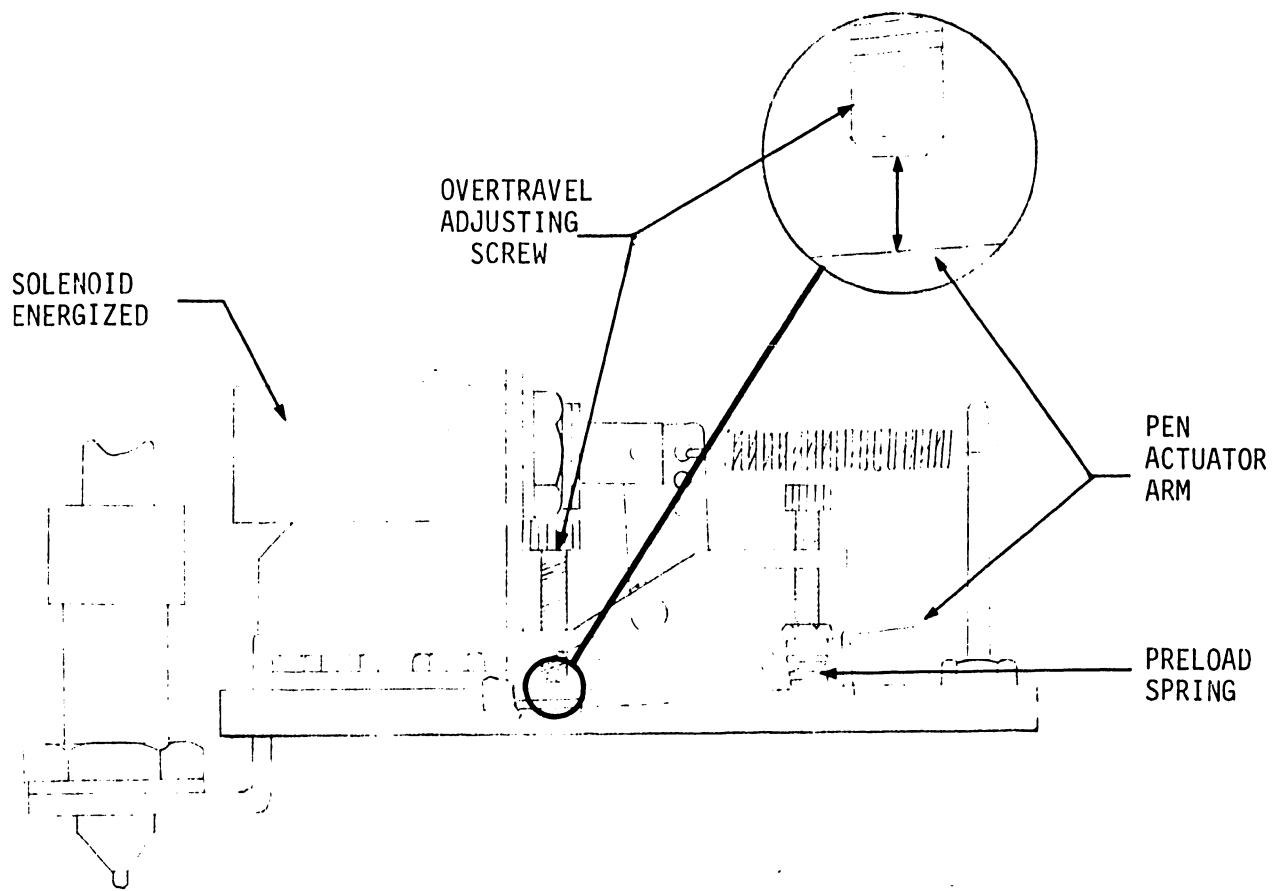

FIGURE 13
- 3) Energize the pen solenoid ( $\alpha$ , 0502 - 600; WRITE ALPHA, 0902 - 700) there should be a gap between the overtravel adjusting screw and the pen actuating arm. See Figure 13.